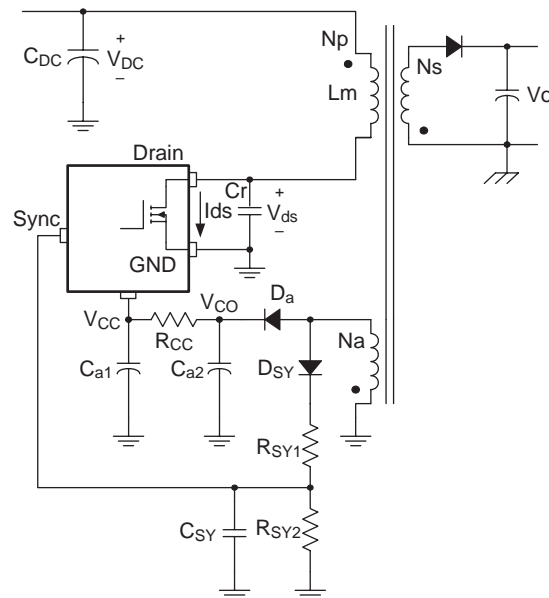
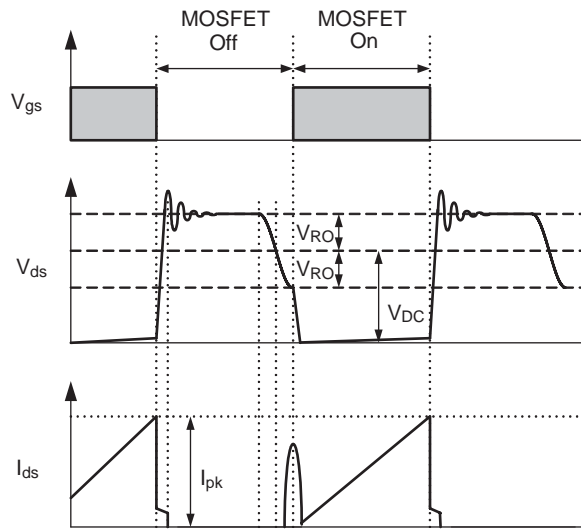
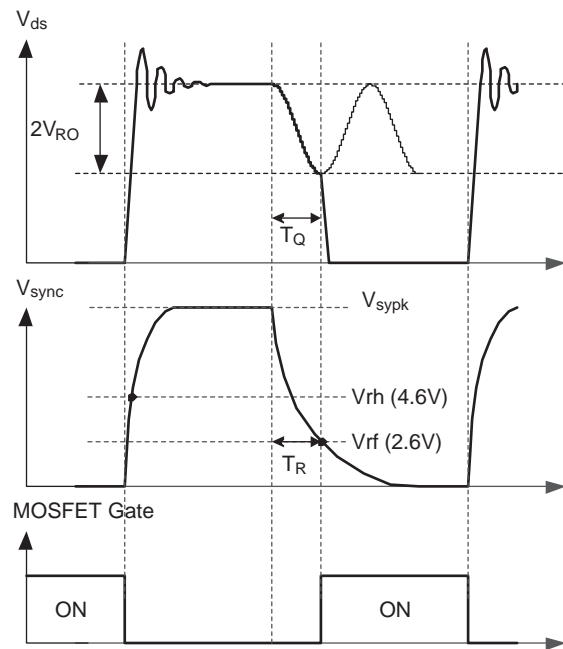

Figure 6. Synchronization Circuit
Figure 7. Quasi-Resonant Operation Waveforms
Figure 8. Normal Quasi-Resonant Operation Waveforms
2. Synchronization: The FSCQ-Series employs a quasi-resonant switching technique to minimize the switching noise and loss. In this technique, a capacitor (Cr) is added between the MOSFET drain and the source as shown in Figure 6. The basic waveforms of the quasi-resonant converter are shown in Figure 7. The external capacitor lowers the rising slope of the drain voltage to reduce the EMI caused when the MOSFET turns off. To minimize the MOSFET's switching loss, the MOSFET should be turned on when the drain voltage reaches its minimum value as shown in Figure 7.
The minimum drain voltage is indirectly detected by monitoring the V_{cc} winding voltage as shown in Figure 6 and 8. Choose voltage dividers, R_{SY1} and R_{SY2}, so that the peak voltage of the sync signal (V_{syPk}) is lower than the OVP voltage (12V) to avoid triggering OVP in normal operation. It is typical to set V_{syPk} to be lower than OVP voltage by 3–4V. To detect the optimum time to turn on MOSFET, the sync capacitor (C_{SY}) should be determined so that T_R is the same with T_Q as shown in Figure 8. The T_R and T_Q are given as, respectively: